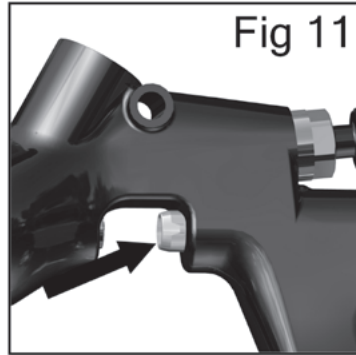

Fig 11
9. Push out the front air valve seal (18) with a finger. (See fig 11).